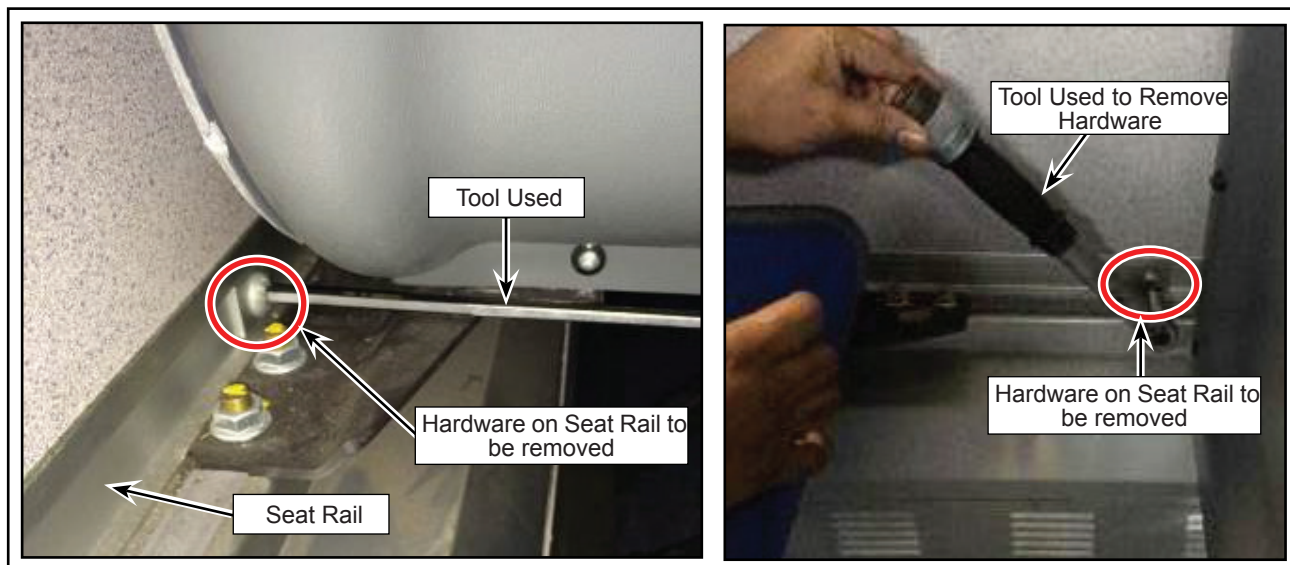

Figure 6 - Removal of Hardware on Seat Rail for Inspection
- 1.8. Remove and inspect each bolt on seat rail one at a time (see Figure 6). If hardware are rusted, stretched or having damaged threads proceed to LEVEL 2 (step 2.20 onwards), else continue with following steps.